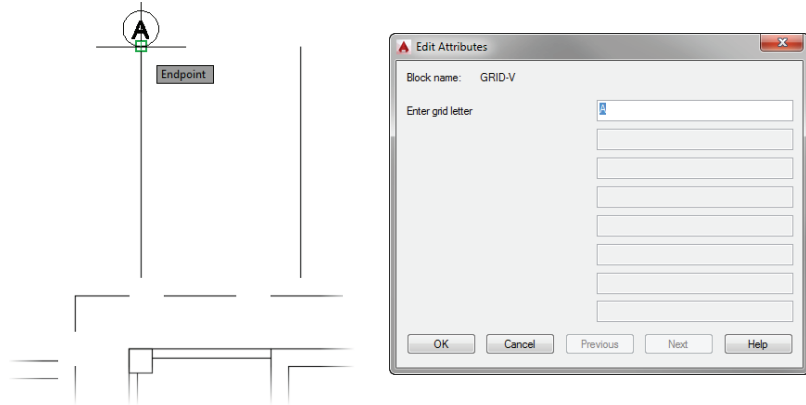

FIGURE 9.9: Choosing the block attribute insertion point (left), and entering values with the Edit Attributes dialog box (right)
- Click the endpoint of the leftmost vertical gridline in the drawing (see the left image in Figure 9.9).
The Edit Attributes dialog box shown on the right in Figure 9.9 opens after you select an insertion point. Each block attribute prompt is shown along the left side of this dialog box, with the default values for each of those attributes shown along the right side of the dialog box.